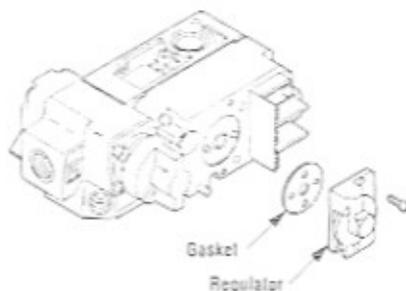

Figure 41
Step 2. Carefully remove the three (3) twigs on top. Then remove the two (2) main logs. Exercise care as not to break the logs.
Step 3. Remove the two (2) screws located at the rear of the burner tray. Remove the burner tray with the burner. Use care to prevent damage to the air shutter adjustment rod. Lift the rear of the burner tray up slightly and to the right to disengage the burner tube from the manifold and orifice.
Step 4. Millivolt Appliances – Remove and replace the regulator assembly located on the front of the gas valve (Figure 41). Ensure that the gasket is seated properly and is not kinked.